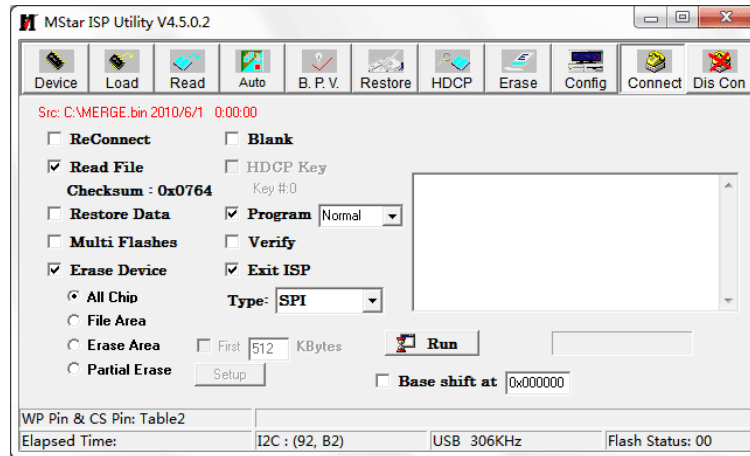

Fig. 5 Option switches
- e) Press menu **“Auto”**, tick options **“All chip”**, **“program”** and relative option switches, please refer to Fig.5, press key **“Run”** to begin burning;